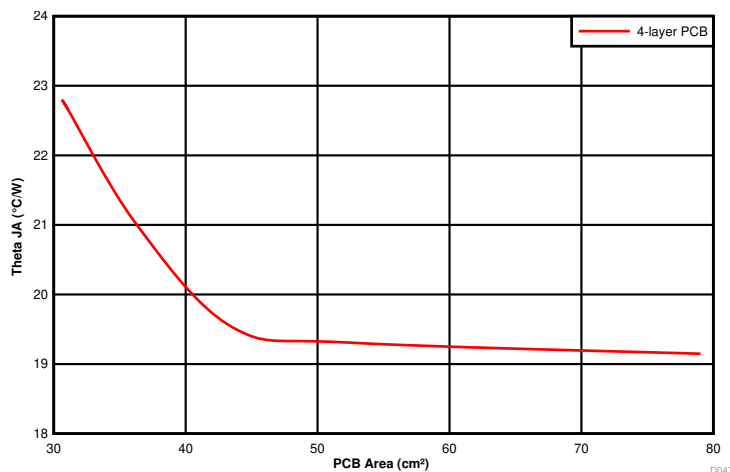

图 47. $R_{\theta JA}$ versus PCB Area (per Layer)
The amount of PCB copper affects the thermal performance of the device. 图 47 shows the effects of copper area on the junction-to-ambient thermal resistance ($R_{\theta JA}$) of the TPSM53603. The junction-to-ambient thermal resistance is plotted for a 4-layer PCB with PCB area from 30 cm² to 80 cm².
3. Reference 图 47 to determine the minimum required PCB area for the application conditions.